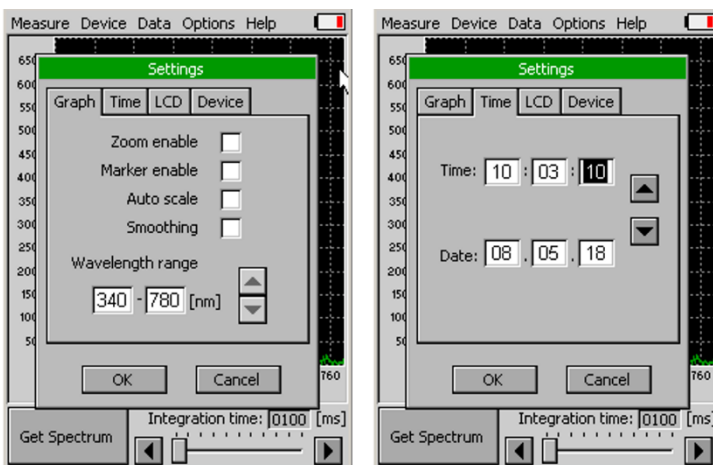

Fig. 6 A) Settings – Graph B) Settings - Time.
- **Graph** (Fig. 6-A) – displays options for setting the wavelength range and graph features
- **Time** (Fig. 6-B)- displays actual time and date (all data files are stored by time and date signature). To change time and/or date specifications touch on one of the values and adjust it using the arrows.